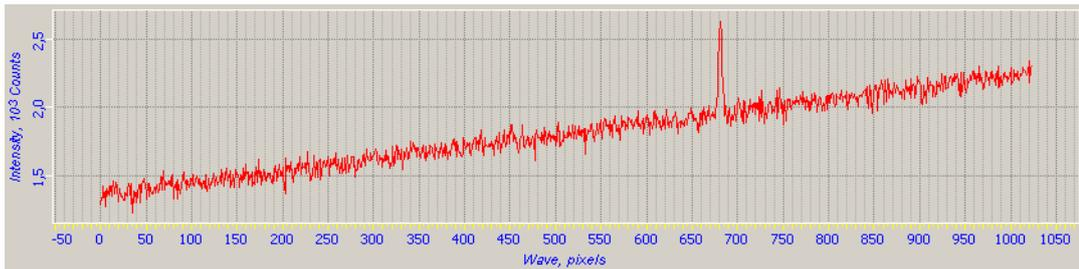

Fig. 10-14. Spectrum collected from the whole CCD-matrix
- d. Collect the spectrum (Fig. 10-14) by clicking the **Single Scan** button.